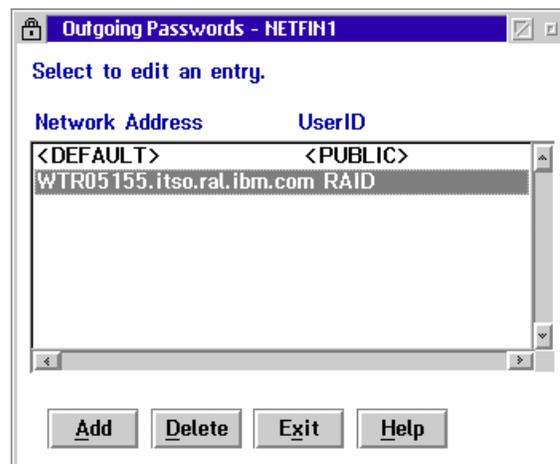

Figure 44. Outgoing Passwords Set
- Click on **Set**. A window similar to Figure 44 appears.